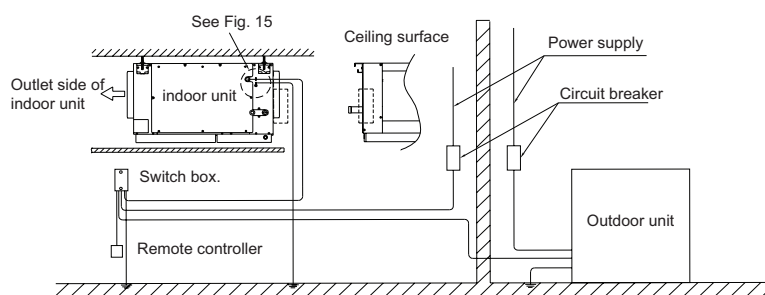

Fig.14
- Install the switch box in an easily accessible location (see Fig.14 on page 9). if there is no place nearby that might provide easy access to the switch box, install it onto the air inlet side of the indoor unit using the two holes on the side plate.